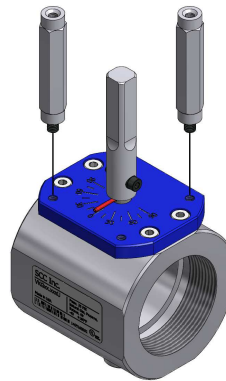

Figure 3: Standoff Installation
2. Place a small amount of red Loctite on the end of each of the (2) M6 x 22mm socket set screws. Using a 3mm hex key, fasten each socket set screw into one end of a hex standoff until the screw bottoms out. By hand, thread the standoffs into a pair of opposite M6 threaded holes on the top of the blue dial of the VKG... valve as shown in Figure 3. Take care to choose the proper pair of holes depending on the desired actuator orientation. Using the 1/2" open end wrench (or crescent wrench), tighten each standoff against the dial.